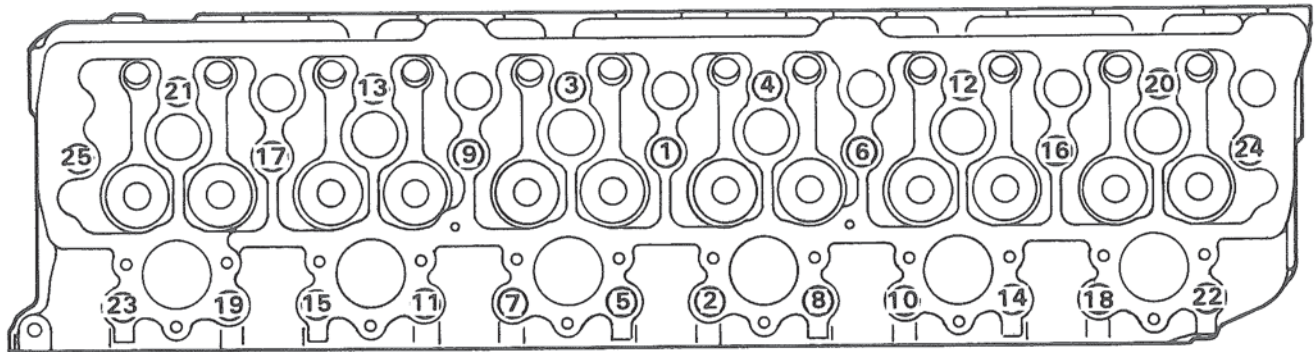

Figure 36. Cylinder Head Bolt Tightening Sequence.
11. Oil threads of cylinder head bolts and tighten, follow sequence. Figure 36.